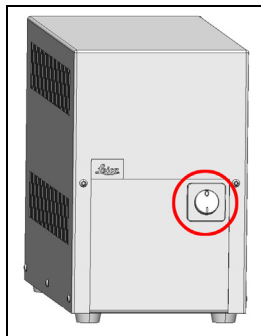
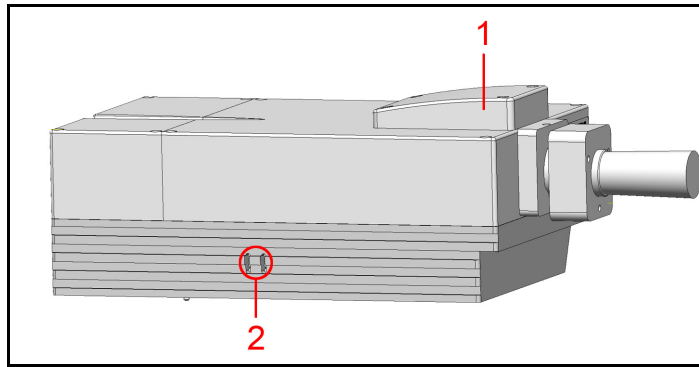

Figure 78: HyD RLD supply unit
Figure 79: HyD reflected light detectors (HyD RLDs)
4. If you are using a HyD RLD, switch it on at its supply unit (see **Figure 78**). You can find additional information on the HyD RLD in **Chapter 12.3**.
If you are using HyD RLDs you have to switch them on before LAS AF starts. Otherwise, the LAS AF software cannot initialize the detectors. The HyD RLDs consist of a supply unit (see **Figure 78**) and a detector module (see **Figure 79**).
- The power switch for switching on and off the power supply and the cooling for the detector module is located on the front side of the supply unit (see **Figure 78**).
- For image acquisition, activate the detectors in LAS AF. The yellow status LED (see **Figure 79, item 2**) flashes if photons are being detected.
Status LED color (see Figure 79, item 2)	Meaning
- The filter cube cover (see **Figure 79, item 2**) ensures the housing's EMC stability and prevents light from entering or exiting.